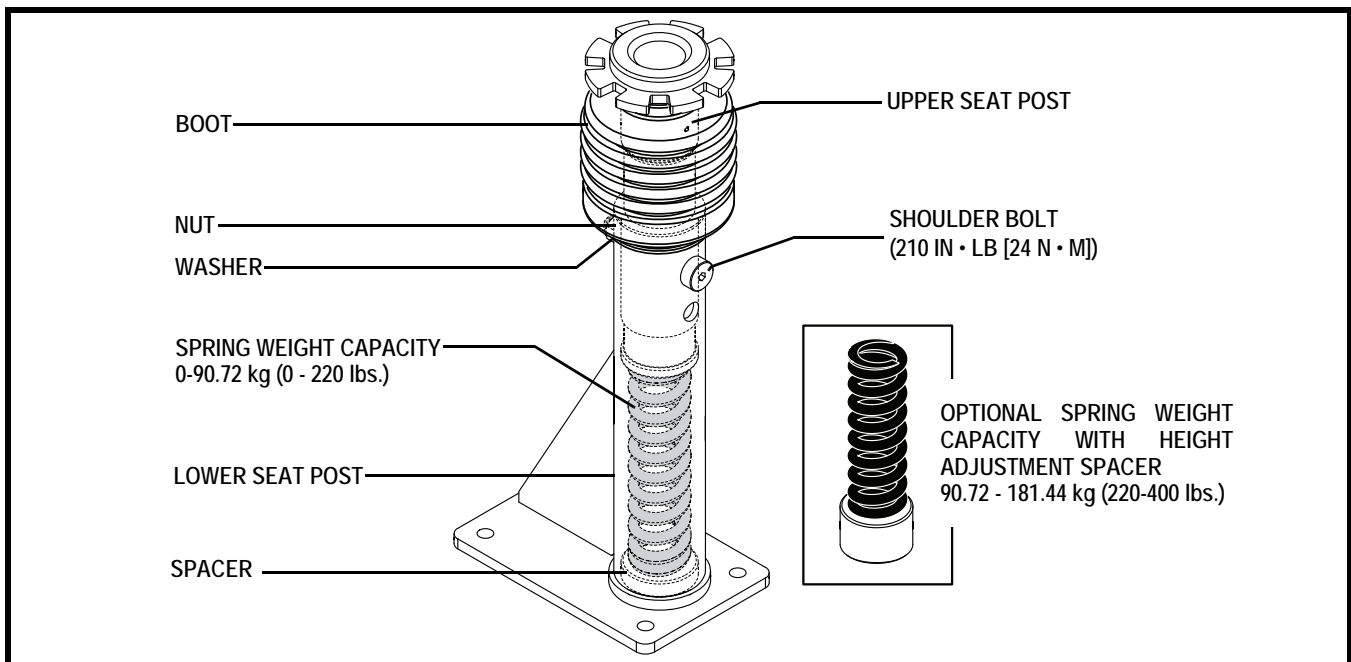

Figure 21. Seat Height Adjustment - Comfort Seat Post
4. Push down on the seat post while loosening and removing the shoulder bolt, washer, and nut. See **figure 21**.
6. Install the desired spring. **See figure 21.**